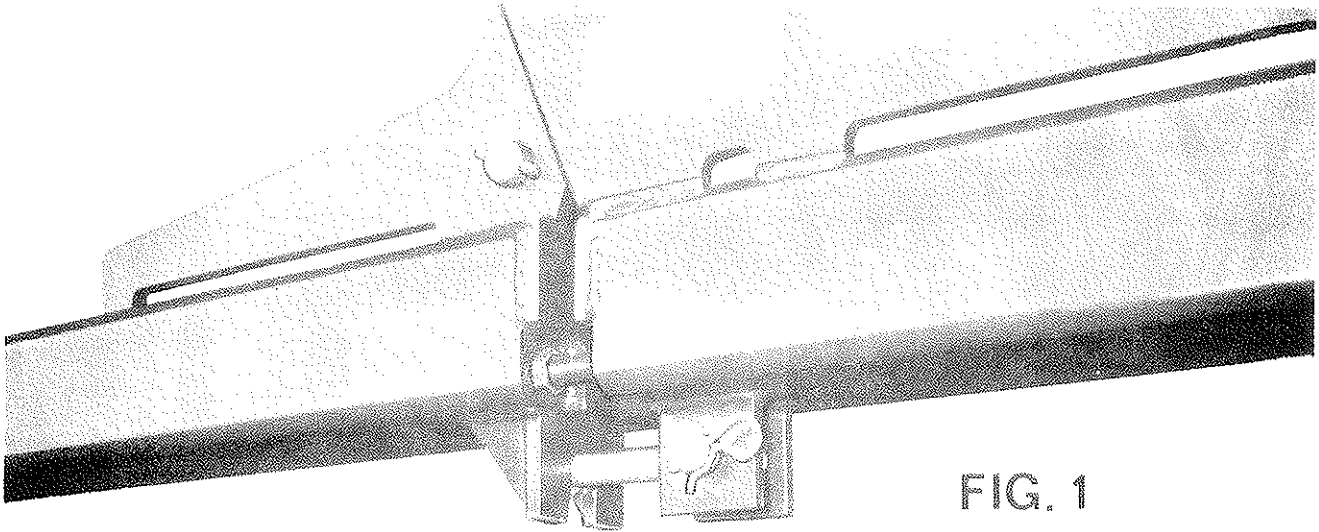

FIG. 1
With current wing model Row Crop Cultivators eye bolts are provided to lock the wings rigid in field operation. Figure 1, below, illustrates the wings in this locked, field working position. Figure 2 shows the eye bolt hanging in its lugs as it should appear with the unit in transport position. Note that the eye bolts are assembled in position with 1" locknuts, clevis pins, and hairpin cotters.
A. If the following procedure is used, the lock can be put in and out without the use of tools. Raise the tool bar off the ground with the wings unfolded. Adjust the leveling screws until there is only a slight droop in the wings. Install the lock as shown in Figure 1. Draw the nut up until just snug then back off 1/8 to 1/4 turn. It should now be possible to remove and install the lock by removing a hairpin cotter and sliding the 1" pin out or in as needed.